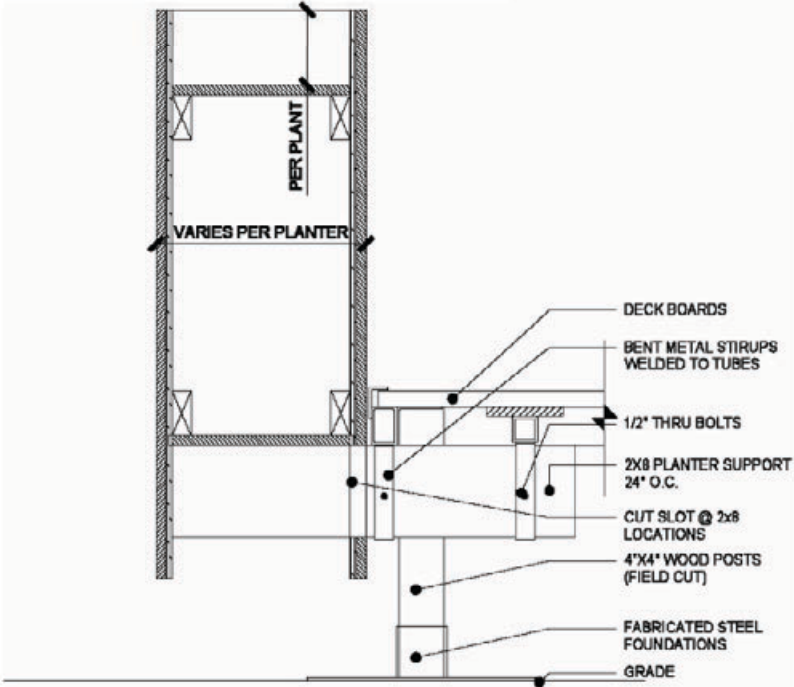

Figure 8: Deck Planter Section
Begin by installing section #1. This section is installed between module 1 and 3 of the home and is supported by the preinstalled 12" long angles. Fasten deck section to the home with 3/8" lags screws, insert into holes provided. Continue onto deck section #2, this section is again mounted to angles attached to the home and on section #1 as well as supported by additional piers (see Figure 8) similar to those used on the home. Attach deck section #2 to home and temporarily support the deck at its outer edges. Level this with section #1. With the deck section level, begin installing the piers, beginning from the outer edge working inward towards the home. Make certain that the length of 4 x 4 posts for the piers are cut accurately. This will ensure no differential settling to occur. Fasten top of 4 x 4 post of pier to angles welded on deck frames with two (2) 1/2" x 6" through bolts.
Once the deck sections are complete install the planter sections. Begin by inserting 2 x 8 cantilevered joists at outer parameter of the deck. Be careful to in install the numbered joist at their corresponding number on the deck frames. Fasten joist to metal stirrups with 1/2" x 3" through bolts (see Figure 8). Each planter is constructed with slots which allow them to be slid over the joists. Install numbered planters at corresponding number on deck frame. Remove upper planter base and fastened planters to joists with 1/4" x 2" wood screws from the interior concealing any connections.